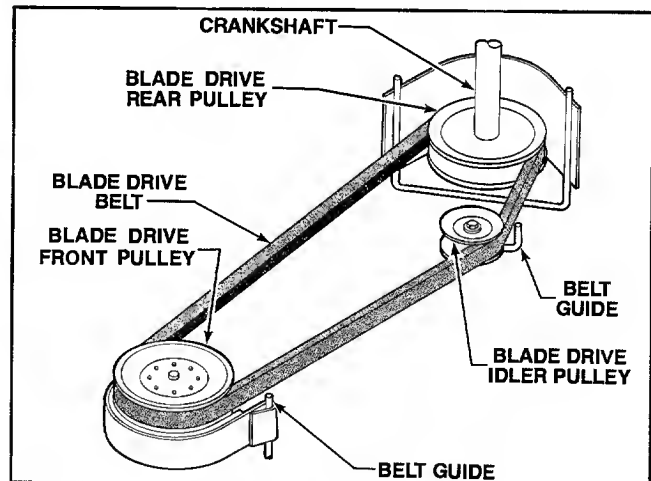

Figure 5-19: Blade drive belt/pulley system.
B. In the following steps, refer to Figure 5-19, which shows the blade drive belt and pulley system.